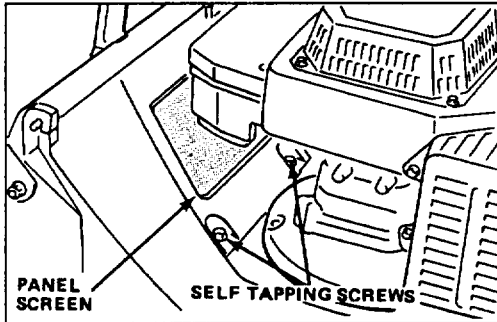

Figure 24
2. Remove (2) 1/2" self tapping screws securing panel screen to mower deck and remove panel screen (Fig. 24).